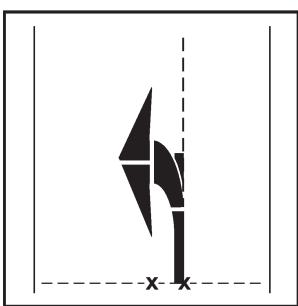

Figure 62
- Place the special "fillet" for the combination arrow with the **RIGHT** edge along the chalk line and fit it into the curve of the curve arrow (see Figure 62).